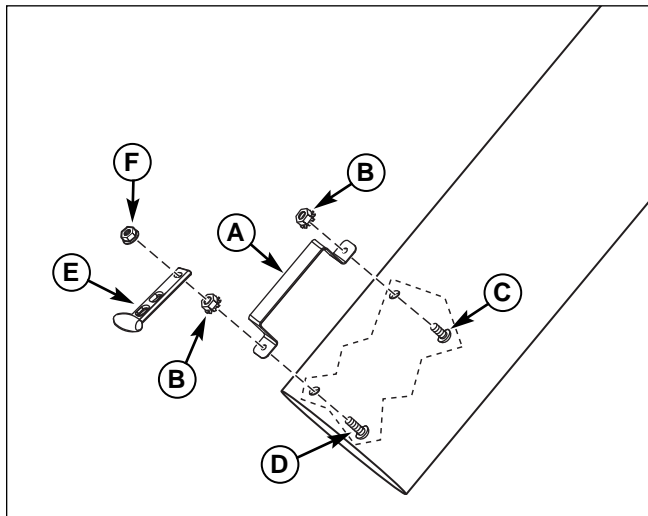

Figure 9. Install Handle to Tube
1. Install handle (A, Figure 9) using 1/4-20 x 1/2 screw and 1/4-20 locknut (B) for rear hole. Use 1/4-20 x 1 screw (D) as shown. Tighten hardware.
2. Install strap (E) to screw (D) securing with 1/4-20 locknut (F).